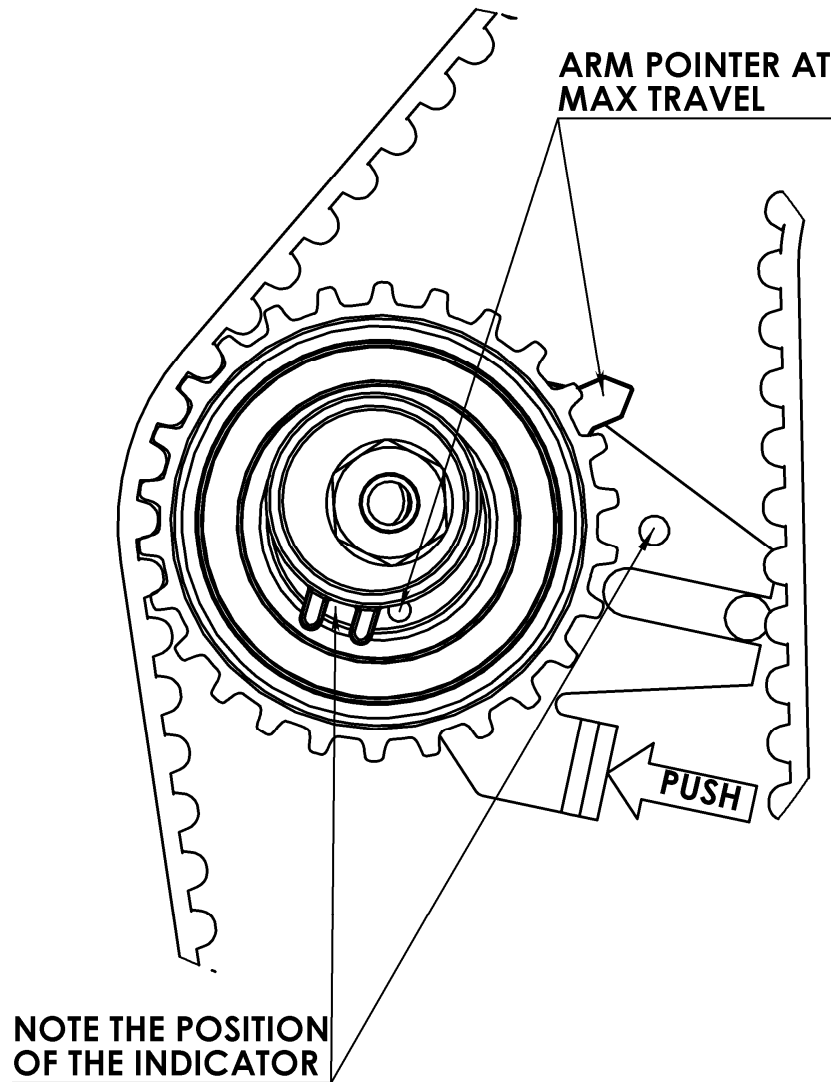

Figure 3: Proper Initial Setup of Tensioner
7. Push the tensioner into the belt using the installation tool. The tensioner assembly will move against the belt and the Arm will eventually start to move COUNTERCLOCK WISE. Continue pushing the tensioner until its maximum travel position is reached (See Figure 3).